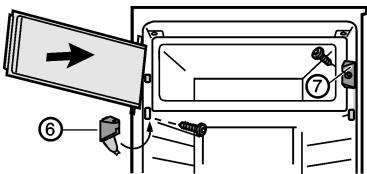

Fig. 3
- Fit closing element Fig. 3 (7).
- Fit turn hinge Fig. 3 (6) and fold the cover.